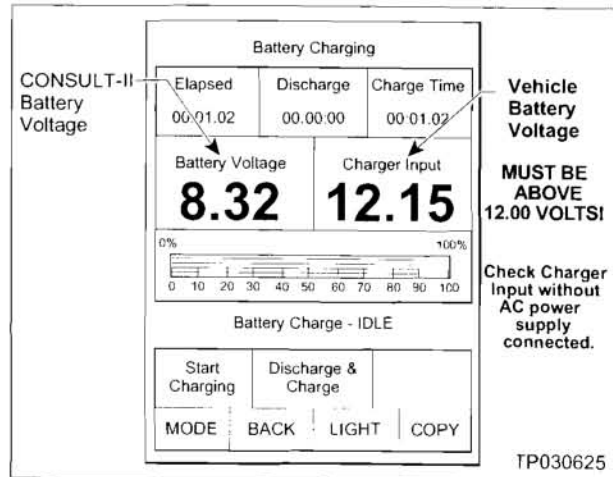

Figure A14
17. Press **SUB MODE** (see Figure A14) then:
18. Check the CONSULT-II's "Charger Input" reading (see Figure A14).
19. The "Charger Input" reading **MUST** be above 12 volts (see Figure A14).
- If "Charger Input" is above 12 volts, power from the vehicle battery will keep CONSULT-II's power supply at the correct level during reprogramming. (see Figure A14).